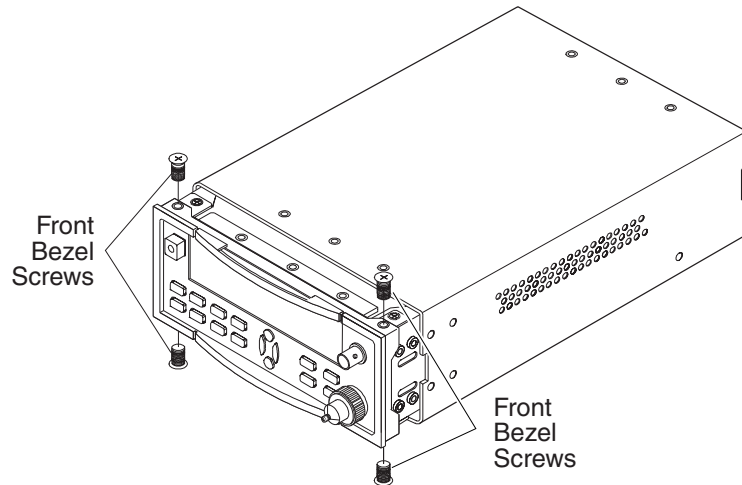

Figure 3-10. Front Bezel Screws
- 2 Remove the four 4-40 x 3/16-inch self-locking flathead machine screws that attach the front bezel to the front panel (two on top and two on the bottom as shown in Figure 3-10).